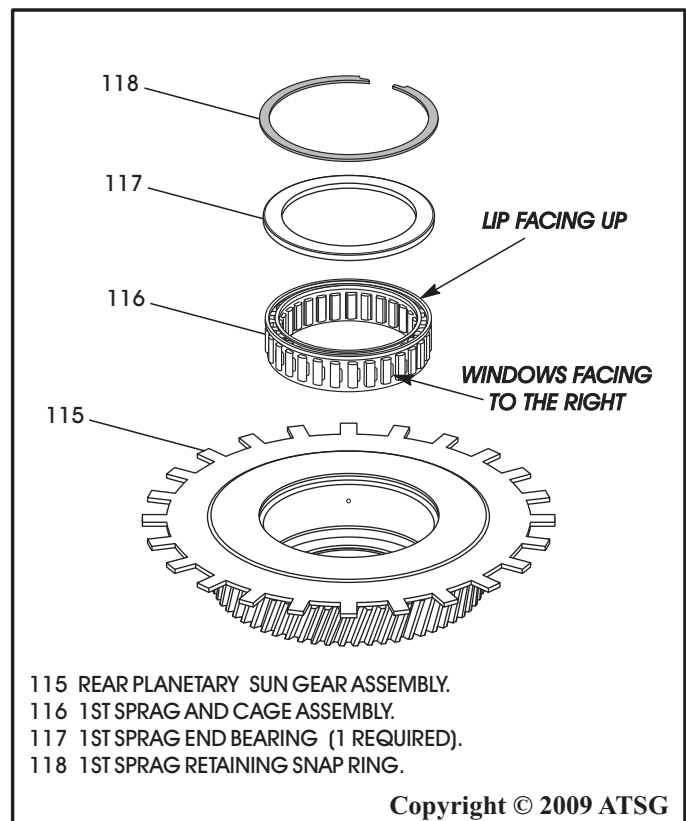

Figure 117
7. Turn rear planetary sun gear over and install the 1st sprag and cage assembly, as shown in Figure 117.
Note: Install with "lip" facing up and the "windows" facing to the right, as shown in Figure 117.
8. Install the 1st sprag end bearing, as shown in Figure 117.
9. Install 1st sprag retaining snap ring, as shown in Figure 117.